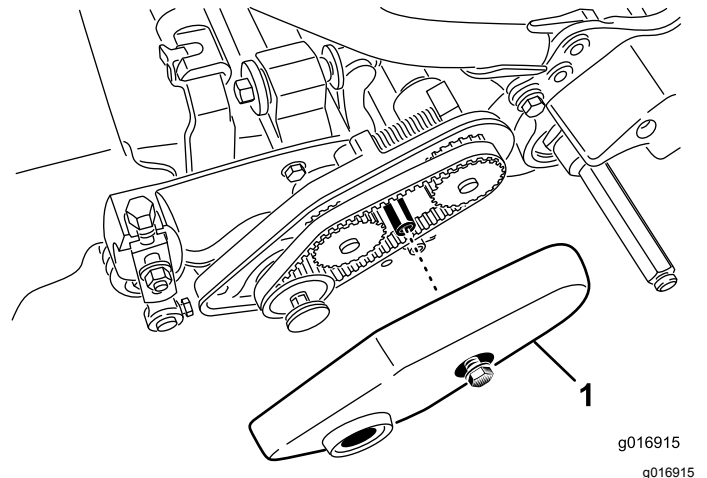

Figure 16
2. Loosen the flange bolt securing the belt cover and remove the belt cover to expose the belt (Figure 16).